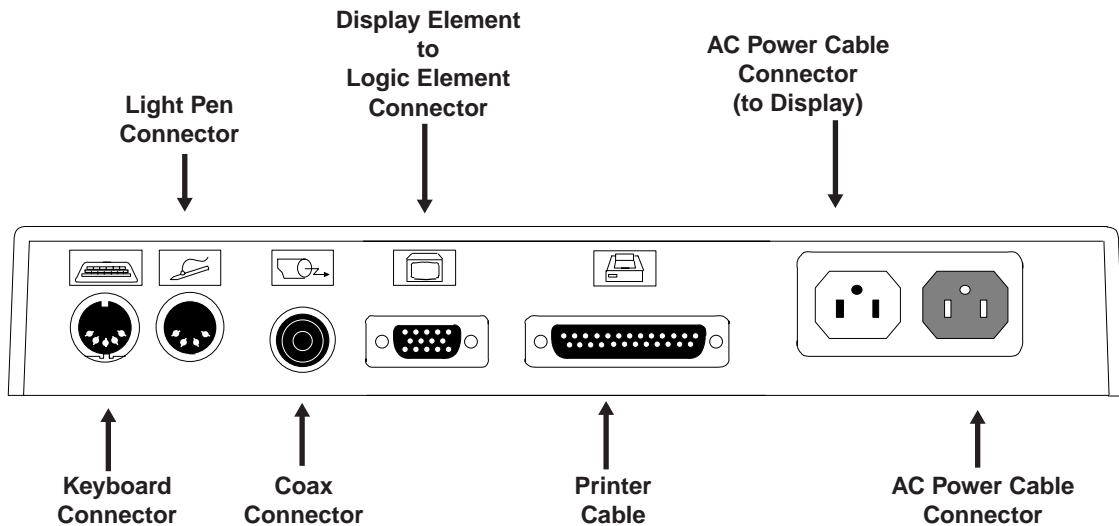

Figure 2-1. 1483 Receptacle Connectors
- 2) Place the keyboard in front of the Logic element. Pull out the feet underneath the keyboard to adjust it to a higher setting, if desired. Insert the keyboard plug into the keyboard connector on the back of the Logic element (Figure 2-1, below).
- 4) For the host addressable or local screen print function, a printer connector is located on the back of the Logic element (Figure 2-1, above). Attach the printer cable (provided with the printer) to the printer connector on the back of the Logic element.
- 6) Attach one end of the monitor AC power cable to the AC power cable connector on the back of the Display element (see the booklet that came with the Display element for the location of the AC power connector) and the other end to the AC power connector on the back of the Logic element (Figure 2-1).
- 7) Plug one end of the power cord into the AC connector on the back of the Logic element (Figure 2-1). Plug the other end of the AC power cord into a wall receptacle.
- 2) Insert the light pen's cable connector into the 4-pin receptacle on the rear of the Logic element. Check to ensure that the connector is firmly seated. Figure 2-1 on Page 2-3 shows the location of the light pen connector on the back of the Logic element.
- 2) Align the end of the connector cable with the Coax connector that is on the back of the Logic element (see Figure 2-1 on Page 2-3). Connect the cable and secure it in place by turning the retaining ring clockwise until it is tight.